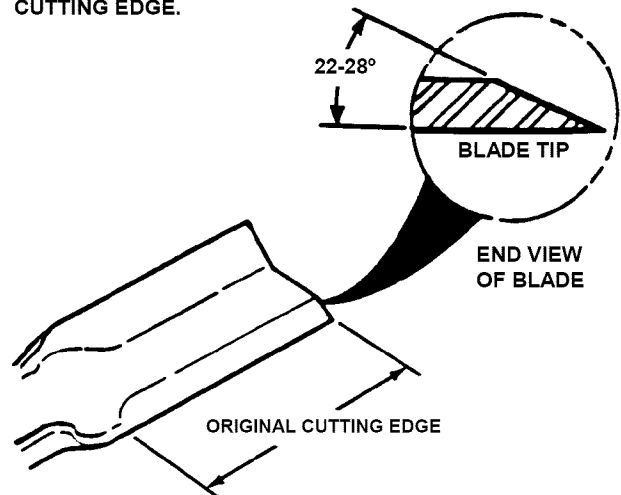

FIGURE 4.3
4. Sharpen blade on a grinding wheel at an angle of 22 to 28 degrees. DO NOT sharpen blade beyond the original cutting edge. See Figure 4.3.